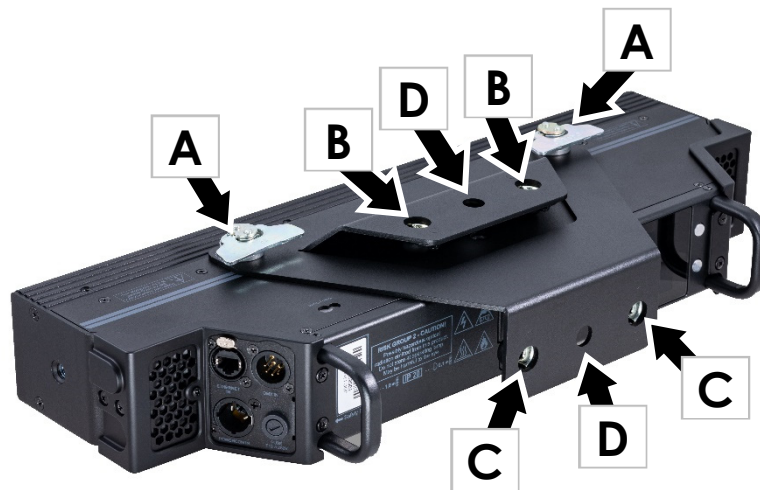

Figure 6. Suspending from a truss using the Rigging Bracket and rigging clamps
2. See Figure 6. Fasten a Rigging Bracket to the fixture using the bracket's quarter-turn fasteners **A**.